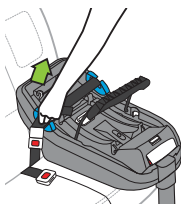

Figure 62a
- Remove slack from vehicle belt around Base by pulling free end of lap-only belt, as shown in **Figure 62a**.